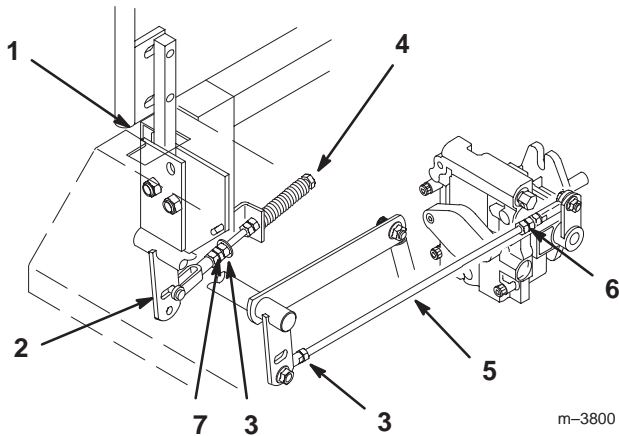

Figure 43
2. Begin with either the left or right motion control lever. Move lever to the neutral (but not locked) position and pull lever back until the clevis pin (on arm below pivot shaft) contacts the end of the slot (just beginning to put pressure on spring) (Fig. 43).
3. Check where lever is relative to notch in console (should be centered allowing lever to pivot outward to the neutral lock position) (Fig. 43).
4. Loosen locknut at ball joint on pump control rod (Fig. 43).
6. Adjust pump rod length by rotating double nuts on rod, in the appropriate direction, until wheel is still or slightly creeps in reverse (Fig. 43).